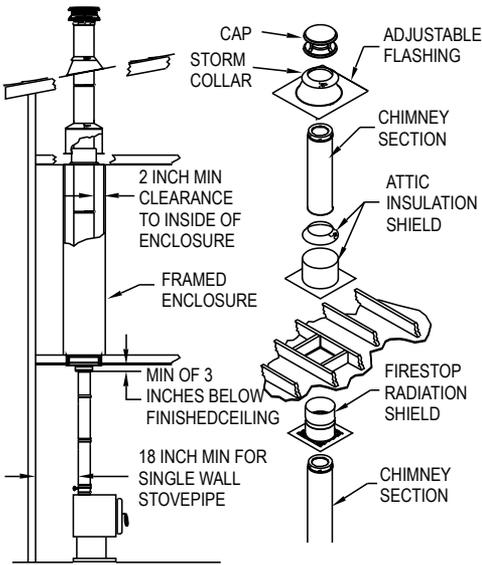
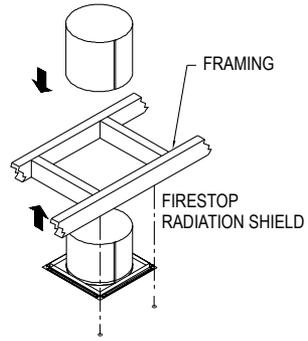

Figure 7
Figure 8
4. Frame Openings: Frame openings in each ceiling or floor above the Support Box (**Fig 7**). These openings are to hold the Firestop Radiation Shield and Attic Insulation Shield. Locate each opening by dropping a plumb bob to the four corners of the opening below. Maintain the minimum clearances and dimensions as specified in **Table 2**. If the Reduced Clearance Support Box is used (available for 6" diameter chimney only), the framing dimensions are 10-1/4" x 10-1/4".
Example: in a multistory home where the appliance is on the ground floor (Support Box is in the 1st floor ceiling), you would need a Firestop Radiation Shield at the 2nd floor ceiling, and at the 3rd floor ceiling, etc., including where the chimney penetrates into the attic. Figure 7 shows a typical 2-story installation with an attic. Note: a Firestop Radiation Shield is not installed where the chimney penetrates through the roof. The Firestop Radiation Shield is installed on the underside of the ceiling/floor framing, with the cylindrical "tube" portion of the shield pointing upward (**Fig 8**). Use a minimum of either (1) 8 penny nail or (1) #8, 1-1/2" wood screws per corner. Refer to Table 2 for framing requirements.
- d. Slip the Attic Insulation Shield over the Chimney and Firestop Radiation Shield until the base sits squarely on the framed opening (**Fig 7 & 10**).